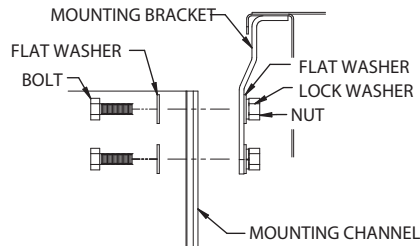

Figure 19 – Attaching Mounting Channel to Mounting Bracket
2. At each hole, attach the mounting channel to the bracket using 3/8" (10mm) hardware as shown in Figure 19.